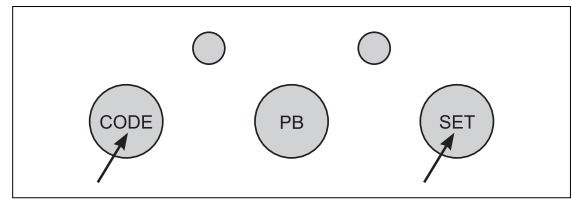

Fig. 11
- 1 Press and hold **CODE** + **SET** for 3 secs. The yellow **open** LED will light up indicating Sectional Mode. (Fig. 11).